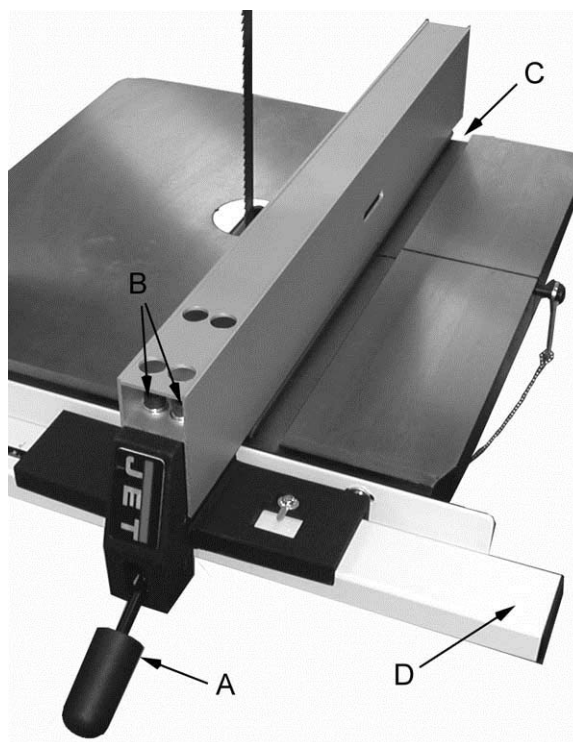
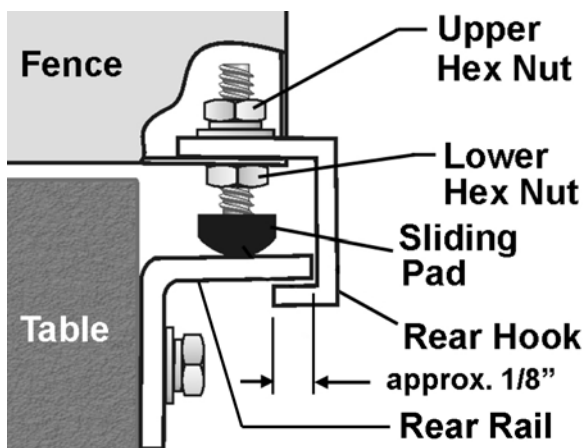

Figure 11
Figure 14
5. Place the fence assembly onto the *guide rail* (D, Figure 11) and against the edge of the *miter slot* (C, Figure 11). The hook at the rear of the fence should fit under the rear rail (see Figure 14).
6. Lock the fence by pushing down the *lock handle* (A, Figure 11). Because the screws are only hand-tight, you can shift the fence slightly as needed until the fence is parallel to the miter slot.
7. When the fence has been properly aligned to the miter slot, tighten the four *socket head cap screws* (B, Figure 11) with a 6mm hex wrench. Make sure the fence remains parallel to the miter slot as you tighten the screws.
If the gap between fence and table is not consistent, loosen either of the *hex nuts* on the *hook* (Figure 14) and rotate the *sliding pad* until the fence/table gap is consistent across the full length of the table. When this is achieved, tighten both hex nuts.
Check the adjustment of the *hook* at the rear of the fence. The hook should be positioned so that it overlaps the rear rail by approximately 1/8" (Figure 14). To adjust the hook, loosen the *upper hex nut* and slide the hook in or out as needed. Re-tighten upper hex nut.